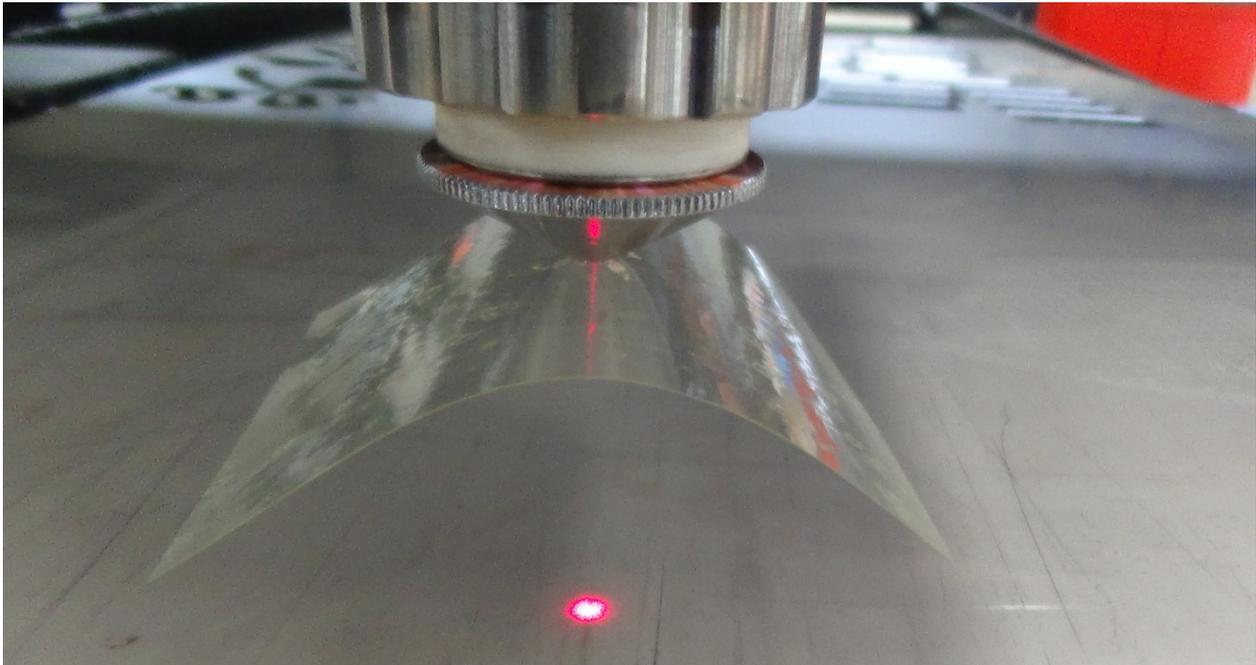

Fig.3.2
2) Evenly apply the transparent adhesive tape to the end face of the nozzle (see the figure 3.2).